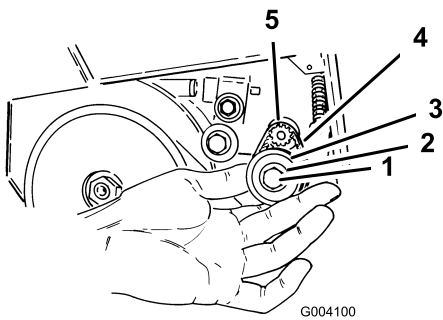

Figure 21
- Remove the 2 washers and the small pulley (Figure 21).
6. Remove and discard the small belt (Figure 21).
9. Slide the belt over the motor shaft pulley (Figure 21).
11. Slip the large belt over the small pulley (Figure 21). Refer to Replacing the Large Belt.